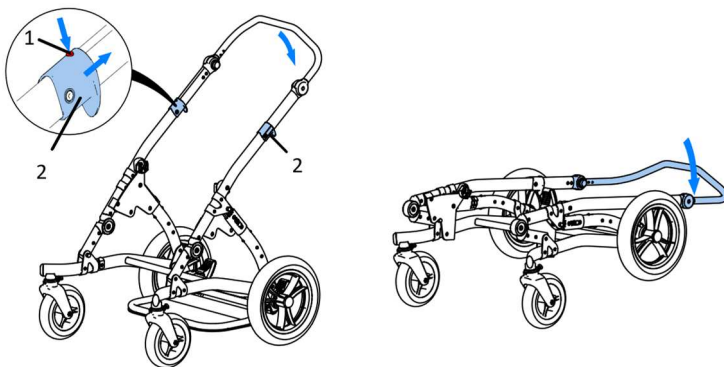

Fig. 7
To fold the mobility base, press the lock (1) Fig. 7, then pull the handles (2) towards you and then push the push handle down. Then fold the push handle.